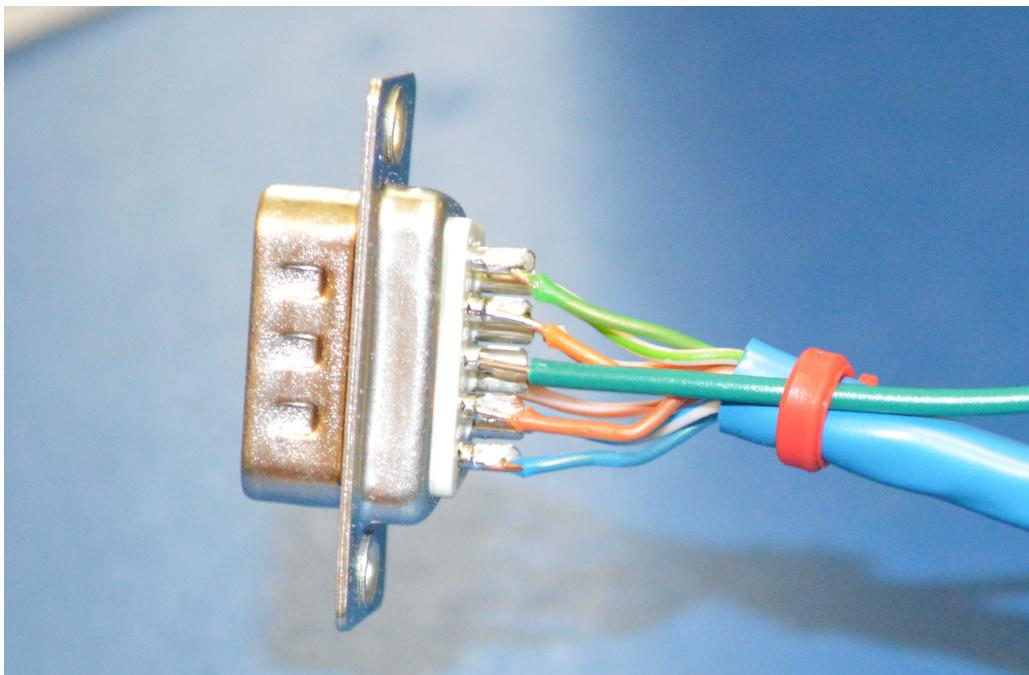

Figure 2.8: LED Panel Connector with Ground Wire
- Since CAT-5 cables are only 8 conductor, a separate ground/return wire needs to be added. As a note of caution, I find that the orange and brown pairs are difficult to distinguish. Be careful, otherwise you may wind up having to resolder the connector. See Figure 2.8.